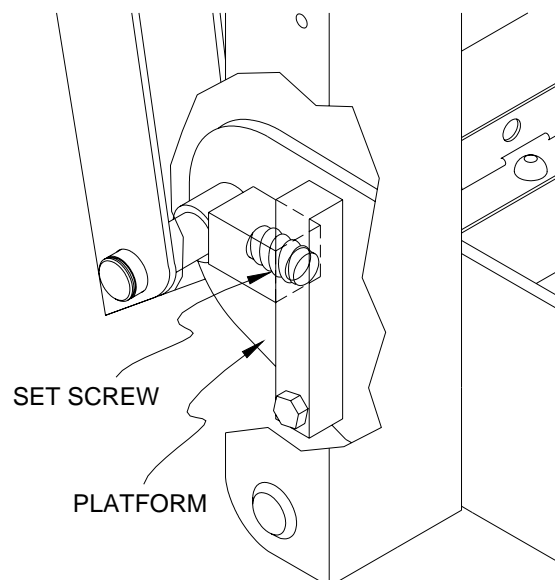

FIGURE 2-15: PLATFORM SET SCREWS
- b. Refer to **Figure 2-15**. Adjust left and right platform set screws until platform is level at zero (0) degrees. Turn setscrews clockwise to angle front-end of platform upward, or counter-clockwise to angle downward.